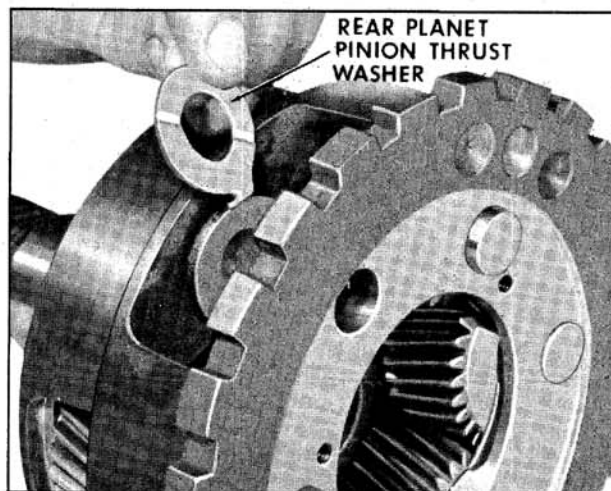

Fig. 6-473 Installing Rear Planet Pinion Thrust Washer
9. Install the rear planet pinion thrust washer. Oil groove must be toward pinion gear. (Fig. 6-473)